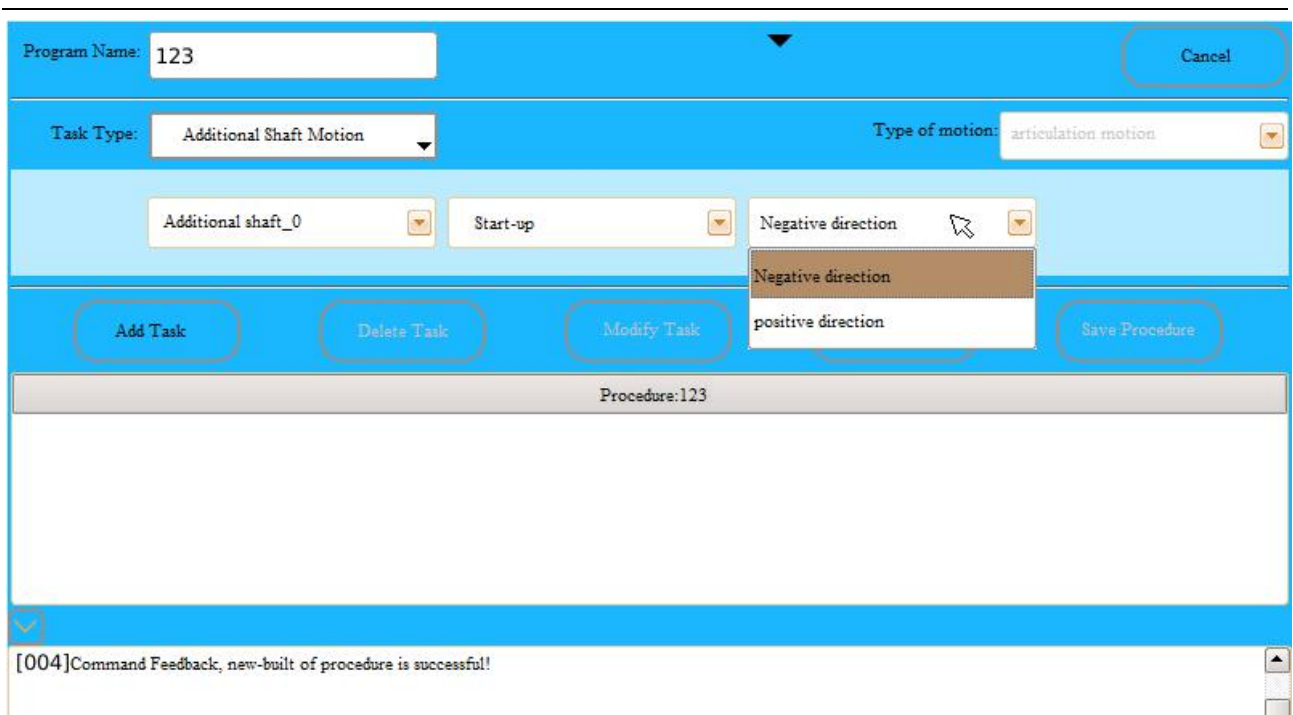

Fig. 3.8 “Additional Shaft Motion” Task Type Setting
When the “Additional shaft” is set to the “Speed” mode, the “additional shaft” sequence number, the “Start/Stop” additional shaft motion and the “Positive/Negative” rotation direction can be set by the programming instruction “Additional shaft motion” during programming, as shown in Fig. 3.8.
**(3) “Additional shaft motion” task type** — When the additional shaft is set to “Speed mode”, the “Additional shaft” can be set “Start-up” and “Stop” through the “Additional shaft motion” task type, wherein the “Additional shaft\_0” represents the J7 shaft, and the “Additional shaft 1” represents the J8 shaft; the “Positive direction” and the “Negative direction” rotation directions can be set when the additional shaft “start-up” is added, as shown in Fig. 3.8.